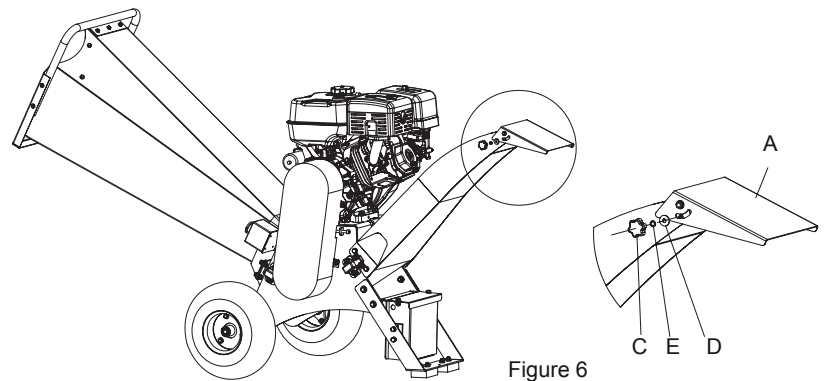

Figure 6
**INSTALL HANDWHEEL - FIG 6**
1. Assemble the handwheel (C) by using the spring washer (D) and flat washer (E), the splash guard (A) can be adjusted at the desired direction, then tighten the handwheel.